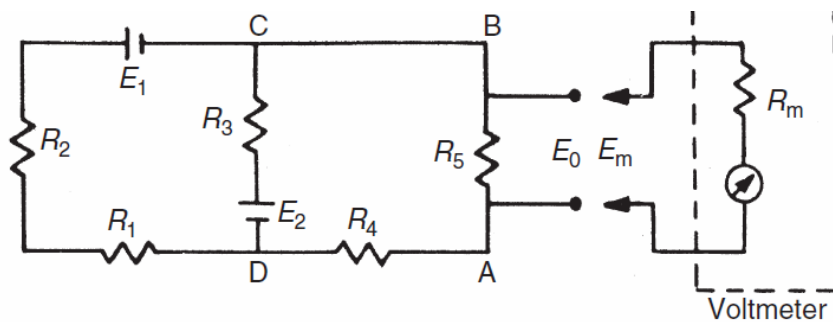

Figure 2: Effect of applying the voltmeter to the measured quantity.
2. Suppose that the components of the circuit in Figure 2 have the following values: $R_1 = 400\Omega$, $R_2 = 600\Omega$, $R_3 = 1000\Omega$, $R_4 = 500\Omega$, $R_5 = 1000\Omega$